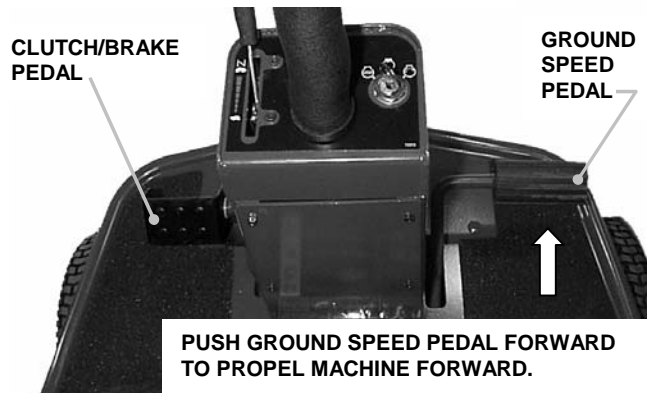

FIGURE 2.10A
2. Depress clutch/brake pedal, pivot pedal rearward to unlock brake and release pedal. Releasing pedal releases brake and engages clutch. See Figure 2.10A & C.